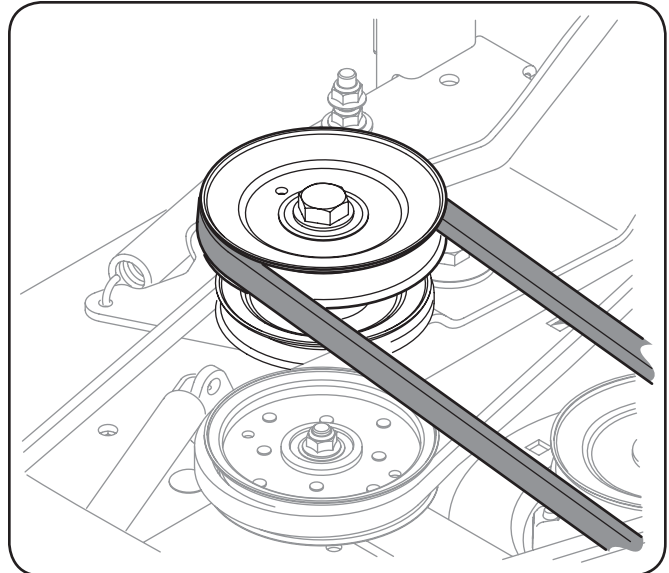

Figure 2-6
5. Carefully route the PTO belt around the deck drive pulley, with the 'V' side of the belt facing inward, by slowly rotating the pulley with the belt in your palm. Once the belt is seated, *slowly* allow the wrench to pivot forward, applying tension. See Fig. 2-6.